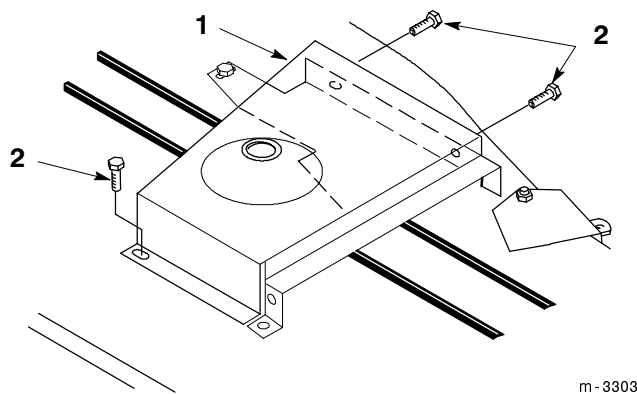

Figure 18
3. On 42" mowers, mount the belt cover loosely to the outside of the belt cover bracket and top of the mower using (3) 1/4 x 1/2" flange screws (Fig. 18).
3. Tighten mower belt cover mounting screws (Fig. 18 and 19).